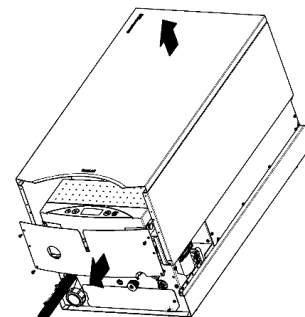

Fig. 1
5. Remove the front cover of the boiler by unscrewing the relevant fixing screws (fig. 1).